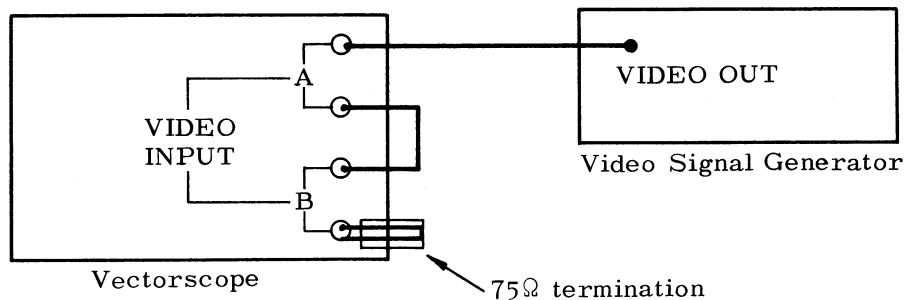
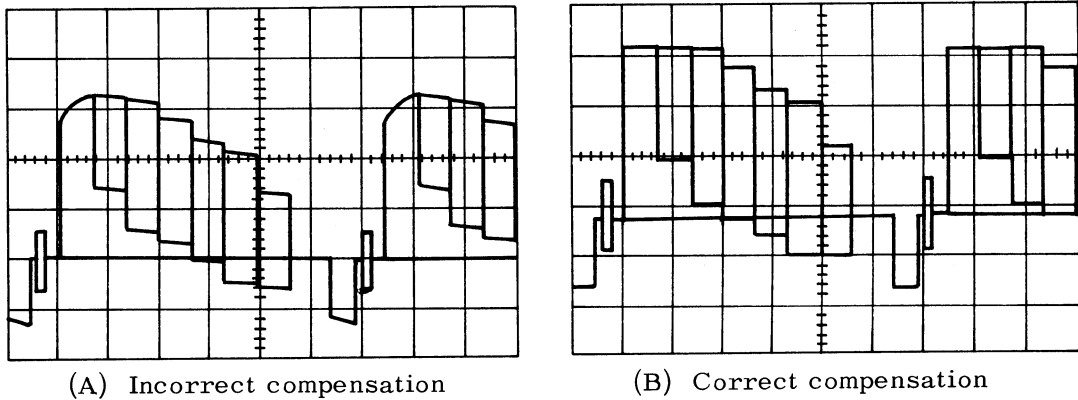

Fig. 4-3 Connections for Adjustment ⑧ and ⑨
Fig. 4-4
- ⑦ Adjust - focus and astigmatism
- ⑧ Adjust - Compensation of VIDEO INPUT A
- a. Take the connections as shown in Fig. 4-3.
- d. Adjust CV1 so that the every top level of the white bar signal is even. (See Fig. 4-4.)
- f. Adjust CV201 so that the every top level of the white bar signal is even. (See Fig. 4-4.)
⑨
- d. Adjust CV101 so that the every top level of the white bar signal is even. (See Fig. 4-4.)
- f. Adjust CV204 so that the every top level of the white bar signal is even. (See Fig. 4-4.)
- ⑫ Adjust - Burst gate pulse
- c. Connect the probe from CH1 and the probe from CH2 of the oscilloscope to pin ① of plug P203 and pin ③ of P203 respectively.
- ⑬ Adjust - DC balance
- a. Connect the digital voltmeter between pins ⑨ and ⑩ of IC205.
- b. Adjust RV205 so that the potential difference between pins ⑨ and ⑩ of IC205 is 0 V.
- ⑭ Adjust - Gain and phase
- a. Make the connections as shown in Fig. 4-3.
⑮ Adjust - Test circle
⑯ Adjust - Subcarrier frequency
⑰ Adjust - Chroma band width
- ⑱ Adjust - ϕ REF band width